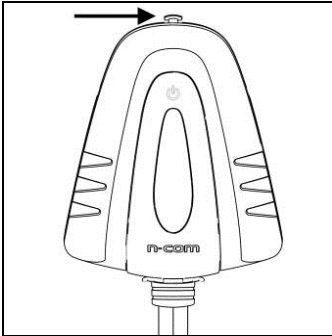

Fig. 3
- Make sure the safety block is properly listed, as shown in Fig. 3. If the safety block is closed, lift it as explained in the chapter entitled "Removal";